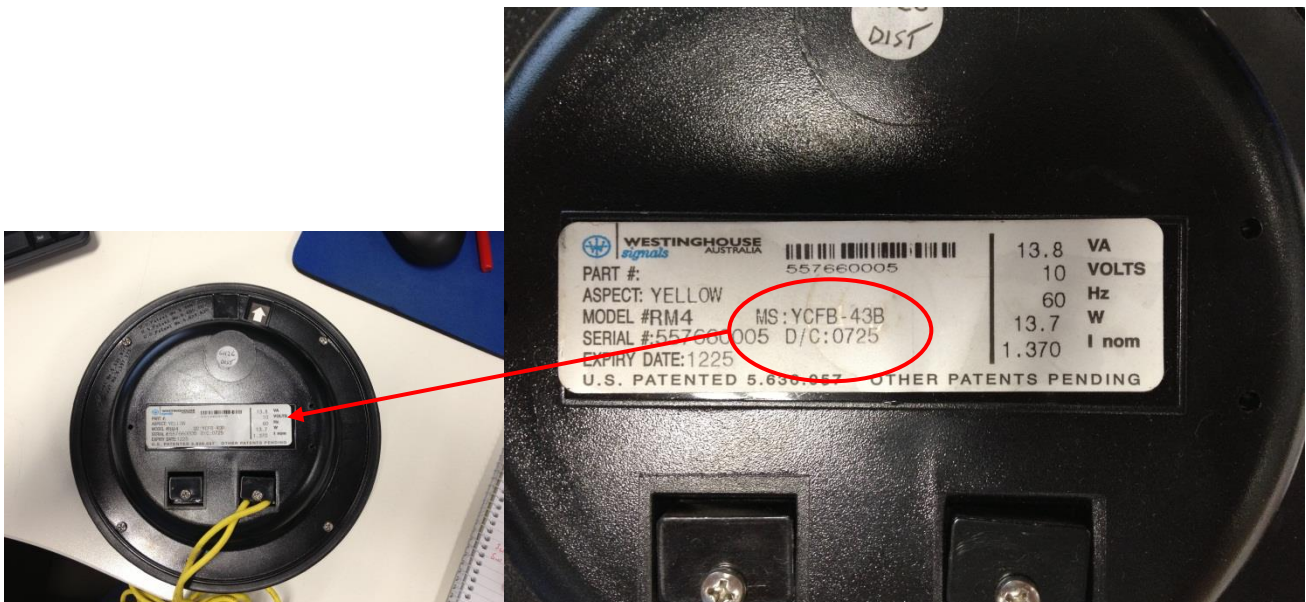

Figure 1
- 1) Inspect the Information Label fixed to the rear of the RM4 LED module (as shown in Figure1)